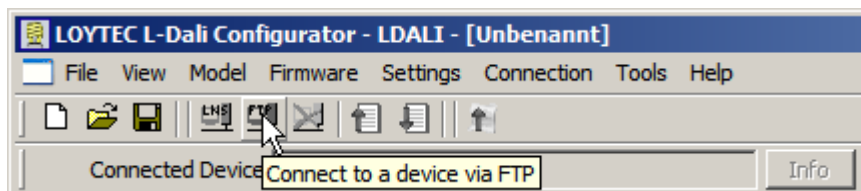

Figure 11: L-DALI Configuration Software, FTP Connect
1. Select the FTP connection method by clicking on the **FTP connect** button in the tool bar as shown in Figure 11.